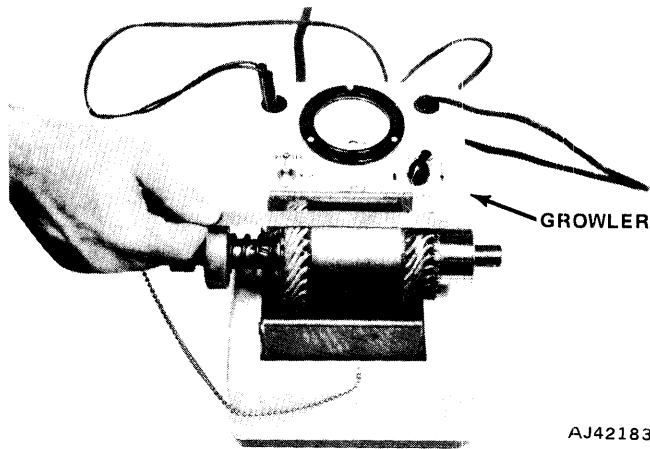

Fig. 3-43 Armature Short Test
(1) Place armature in growler jaws and turn power switch to GROWLER position (fig. 3-43).
(2) Hold a steel blade parallel with and touching the armature core. Slowly rotate armature one or more revolutions in growler jaws. If steel blade vibrates at any area of core, area is shorted and armature must be replaced.